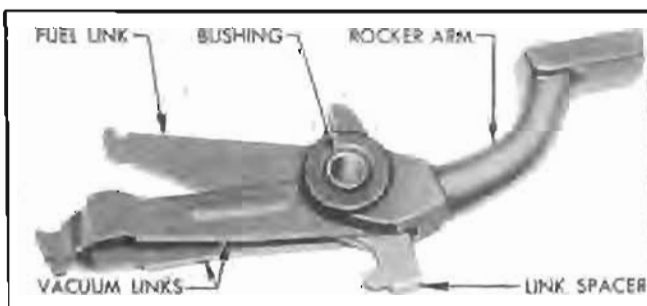

Figure 3-17—Links, Spacer, Rocker Arm, and Bushing Assembled
3. Line up holes in links and spacer, slide parts between the jaws of rocker arm with flat surface of rocker arm pad facing in same direction as link hooks, then install the pin bushing. See figure 3-17.